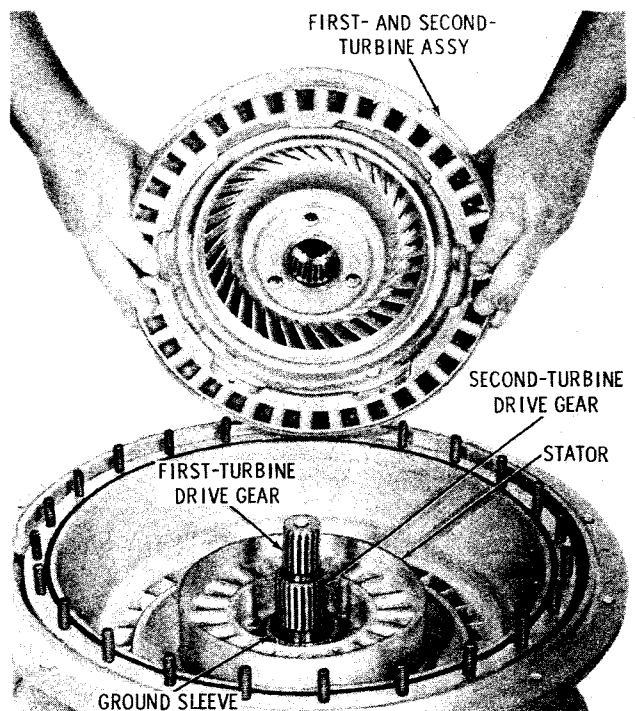

Fig. 7-37. Installing first-and-second-turbine assembly
(3) Install the snapping onto the converter ground sleeve to retain the stator (fig. 7-37). Install the first- and second-turbine assembly (as assembled in para 6-6) onto the turbine drive gear shafts.